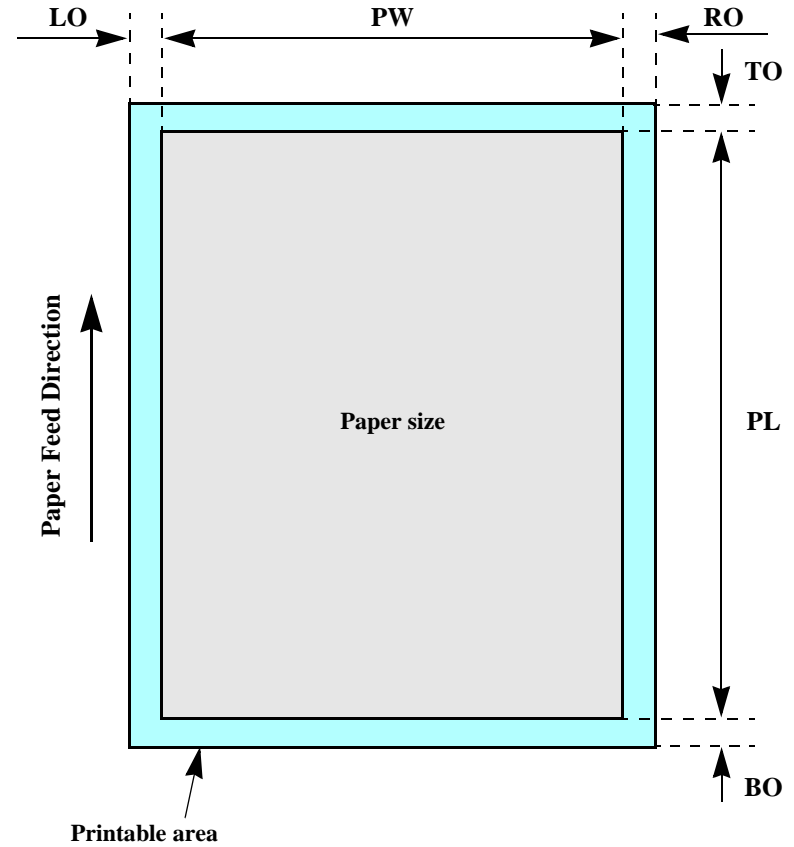

Figure 1-4. Printable area for Cut sheet (border-free printing)
- For paper width (PW) and paper length (PL), refer to “1.2.1.4 Paper Support” (p.12).
- Refer to the following table. As for each overhang area, refer to Figure 1-4 (p.16).